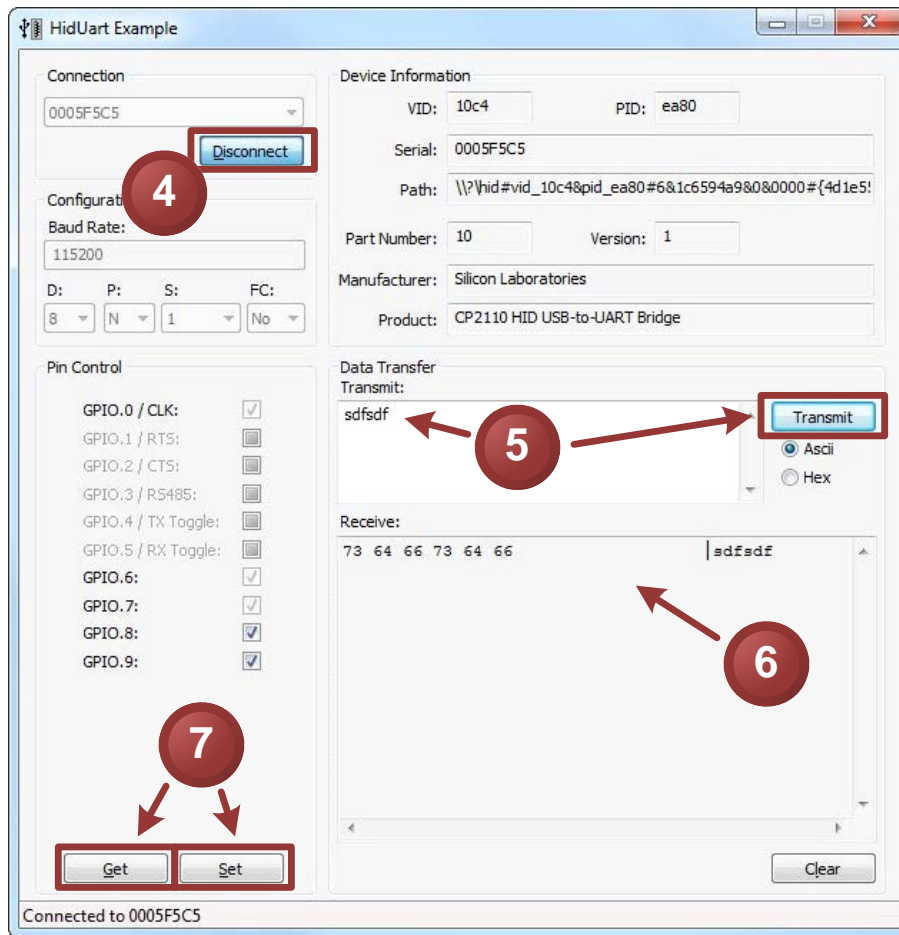

Figure 3. HIDUart Example Application after Connection
7. The HIDUart example automatically recognizes how the GPIO pins are configured and enables/disables the ability to change and read the pin. The default configuration is shown in Figure 3. Use the **Get** and **Set** buttons to read and write the GPIO pins' latch values. For GPIO pins that are configured as outputs, setting the pin to logic low 0 will turn on the corresponding LED on the CP2110 evaluation board.
- Updated Figure 3 with numbered steps matching the instructions in “6. CP2110 Windows Application”.